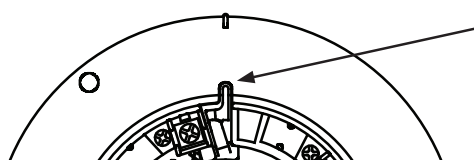

Figure 4: Removing Detector Head from Base
2. To remove the detector from the base once the locking feature has been activated, insert a small screwdriver into the slot on the base to push the plastic tab while simultaneously turning the detector head counter-clockwise (refer to Figure 4).